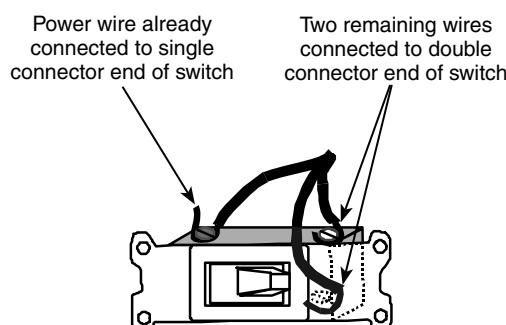

Figure 8-16
7. Connect the two remaining wires to the two contacts at the other end of the switch. It doesn't matter which goes where; see Figure 8-16. You now have this switch wired correctly.